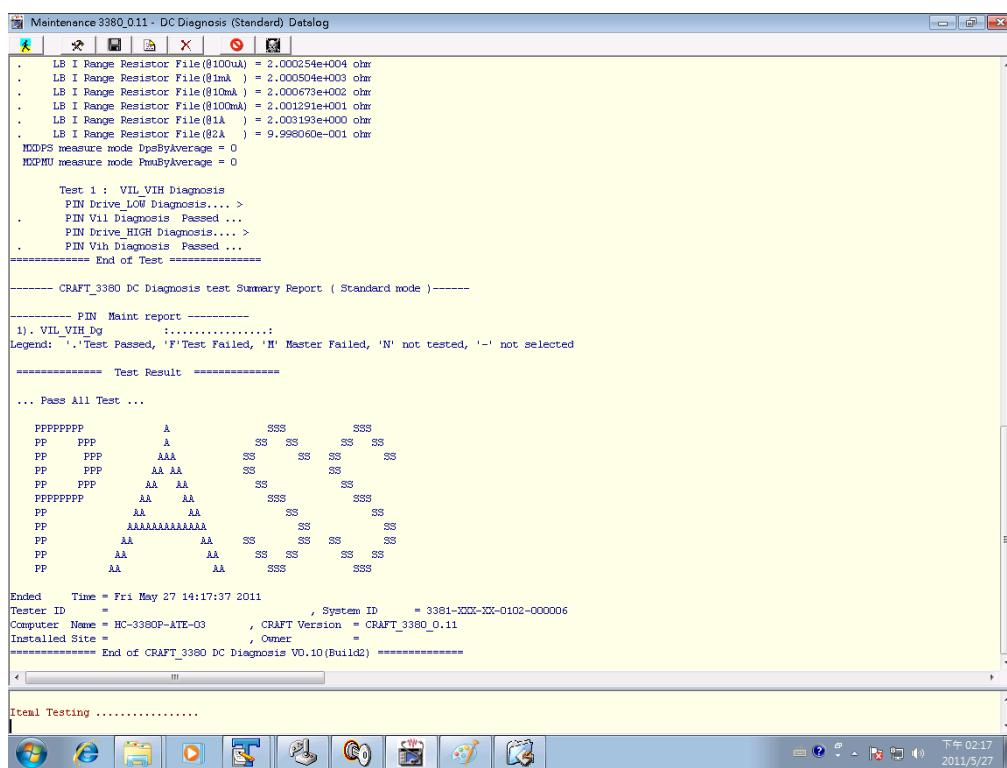

Figure 3-28 DC Diagnosis Datalog
- 3 : Click “Datalog” to switch to the Datalog window (refer to *Figure 3-28*).